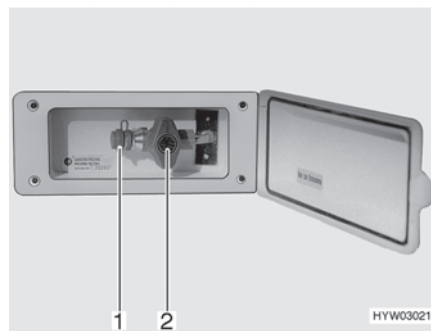

Fig. 109 External gas connection (gas isolator tap closed)
The external gas connection (Fig. 109) is located at the rear or to the left or right of the vehicle depending on the model.
- Connect the external gas device to the connection point (Fig. 109,1).
- Open the gas isolator tap (Fig. 109,2).